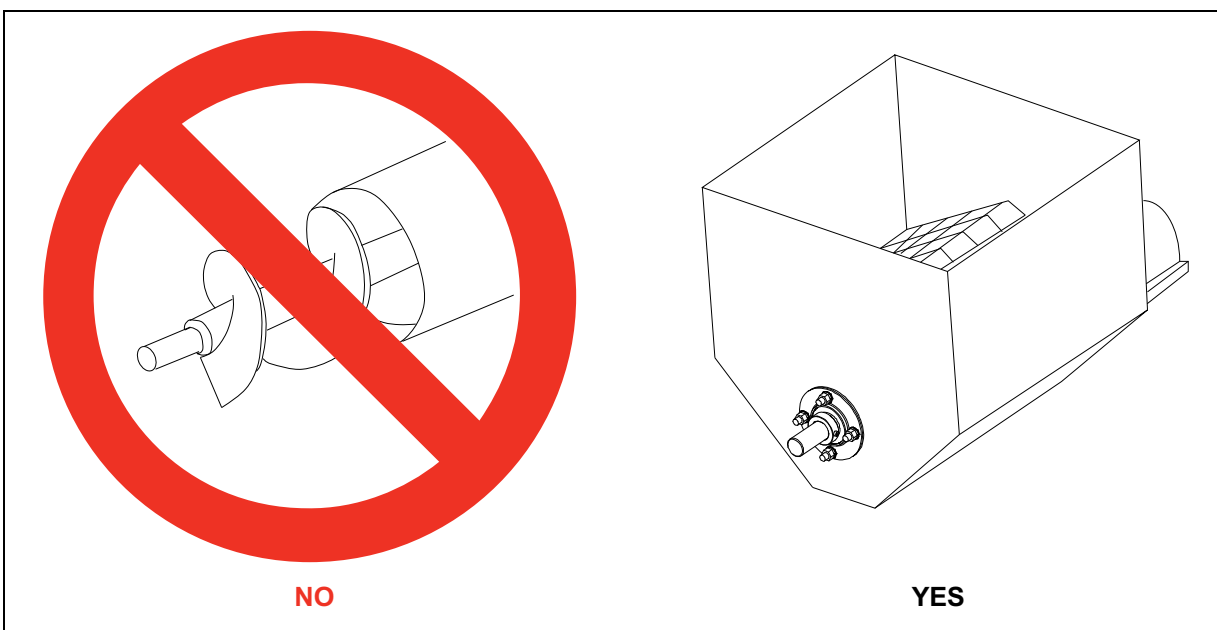

Figure 1C
1. End and intermediate intake guard. *(See Figure 1C.)*